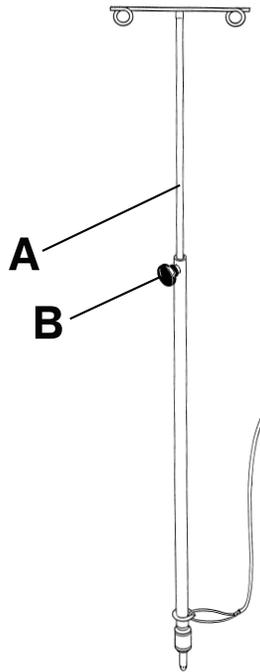

Figure 13 – Tethered IV pole
2. To raise the height of the pole, turn the knob (B) counterclockwise. Pull up on the telescoping portion (A) until you reach the desired height (Figure 13).
3. To lock the telescoping portion into place, turn the knob (B) clockwise.